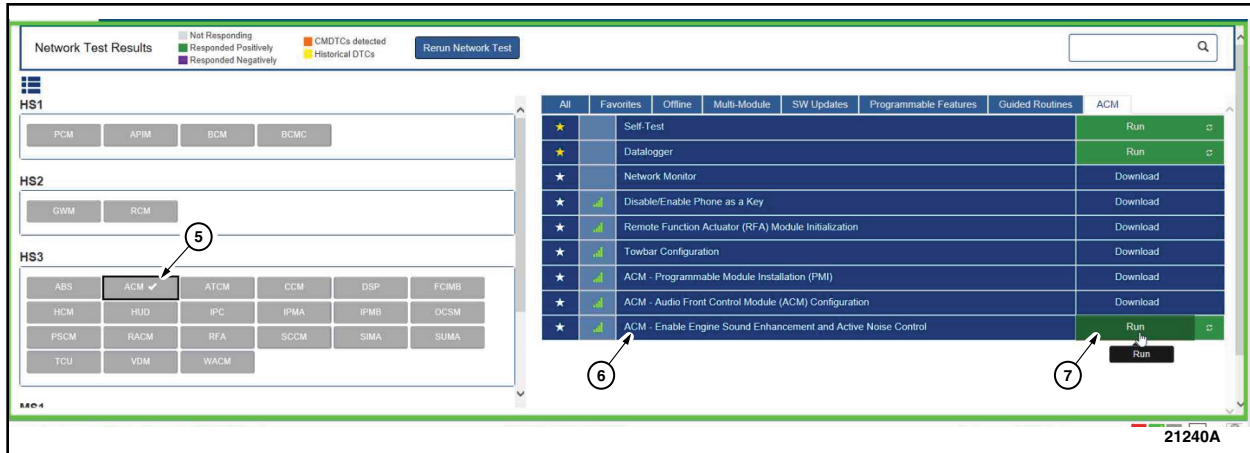

FIGURE 1
5. From the list on the LH side of the screen, select the ACM. See Figure 1.
6. From the list on the RH side of the screen, select ACM - Enable Engine Sound Enhancement and Active Noise Control. See Figure 1.
7. Click RUN. Follow all on-screen instructions carefully. See Figure 1.